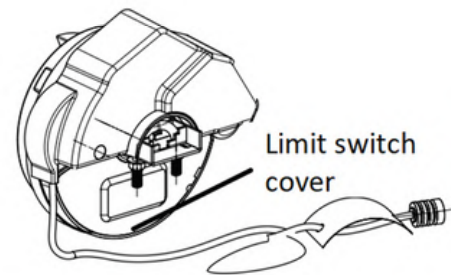

Figure 4
- ☐ Remove the limit switch cover from the motor head. (See Fig 4)